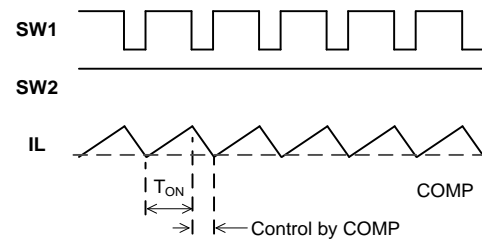

Figure 5: Buck Waveform
on. SWA turns on for a fixed on-time period before turning off. Then SWB turns on again, and the operation repeats. The COMP signal is the error amplifier (EA) output from the V_{OUT} feedback and internal FB reference voltage (see Figure 5).